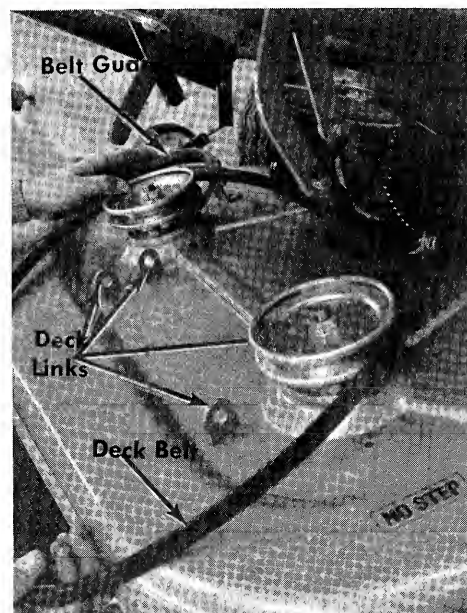

FIGURE 34. DECK LINKS
- Step 6. Remove the front four deck links from the cutting deck. See figure 34.
- Step 7. Remove the belt guards from both deck pulleys. See figure 34.
- Step 7. Tip the deck down as shown in figure 34.